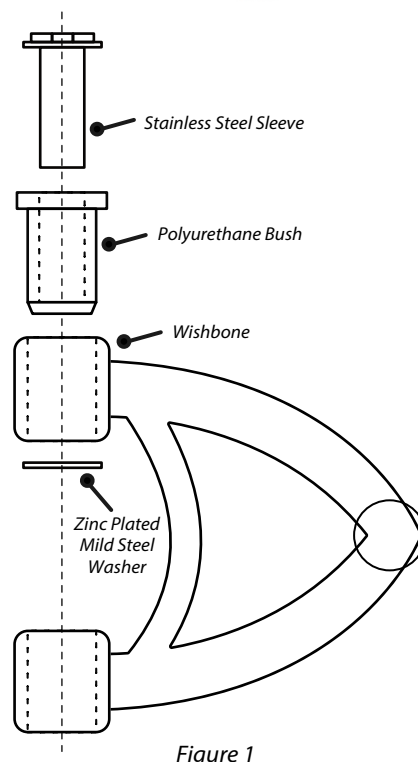

Figure 1
3. Push the polyurethane bush into the bore towards the middle of the arm, so that the top hat section sits on the outer edge of the wishbone as shown in Figure 1. The two bushes should face each other in the arm.